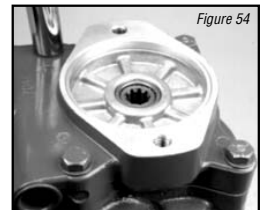

Figure 54
**24** Carefully install the backplate assembly by aligning it with the dowel pins located in the pump housing. Use caution not to dislodge the valve plate (see Figure 54).
**26** With the gerotor assembly installed, install new o-ring into charge pump adaptor plate and place adapter onto backplate over gerotor. Retain with cap screws. Torque cap screws to 25 N•m [18.5 lbf•ft] (see Figure 54).